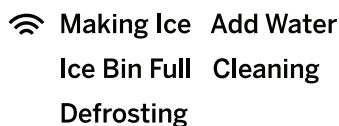

Figure 4
7. Water will begin circulating and the 'Cleaning' indicator will light up on the left-hand side of the unit to confirm the unit is now in cleaning process. See Figure 4. After three minutes the water will stop and the 'Cleaning' indicator light will turn off and the line above 'Clean' will begin to pulse.